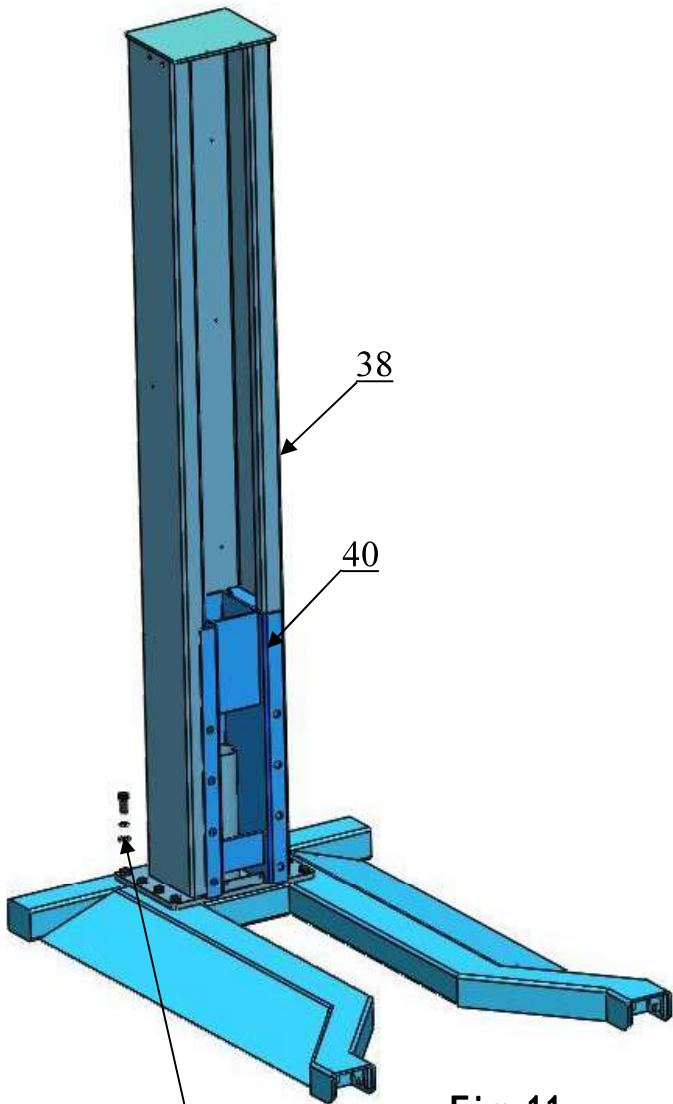

Fig. 11
3.Fix column to the base plate. (See Fig.11)